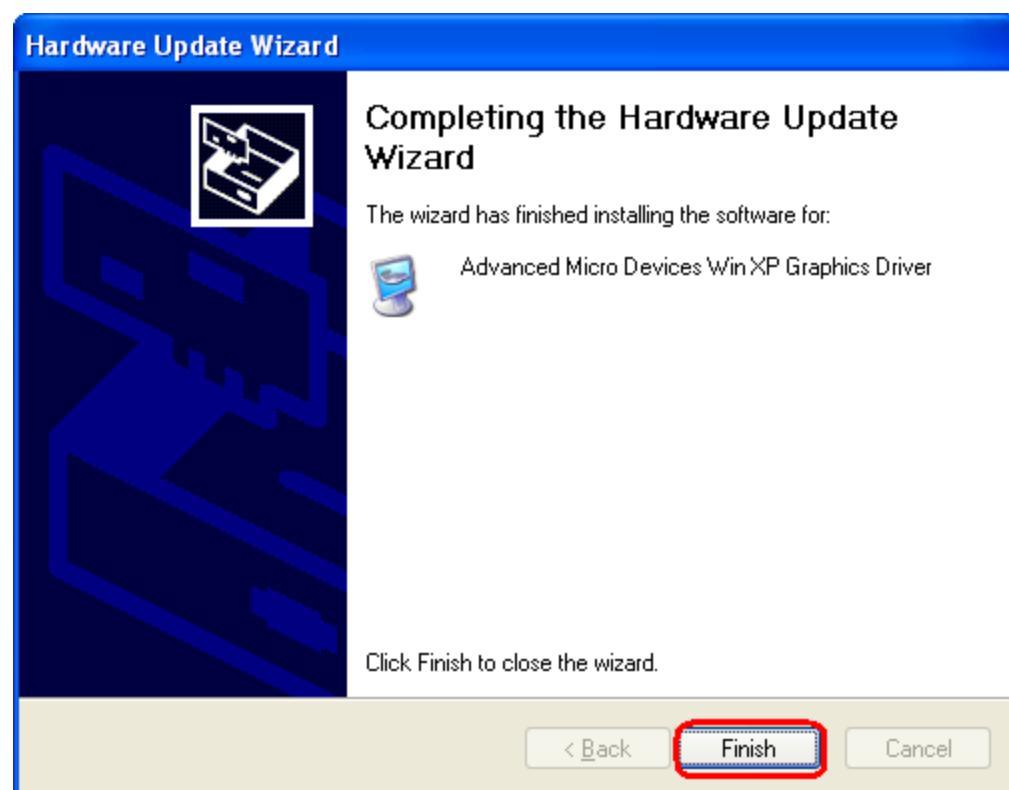

Figure 7-23: Audio Driver Installation Complete
Step 41: When the driver is installed, the screen in **Figure 7-23** appears.
Step 42: Click the Finish tab in to complete the **Figure 7-23** installation.